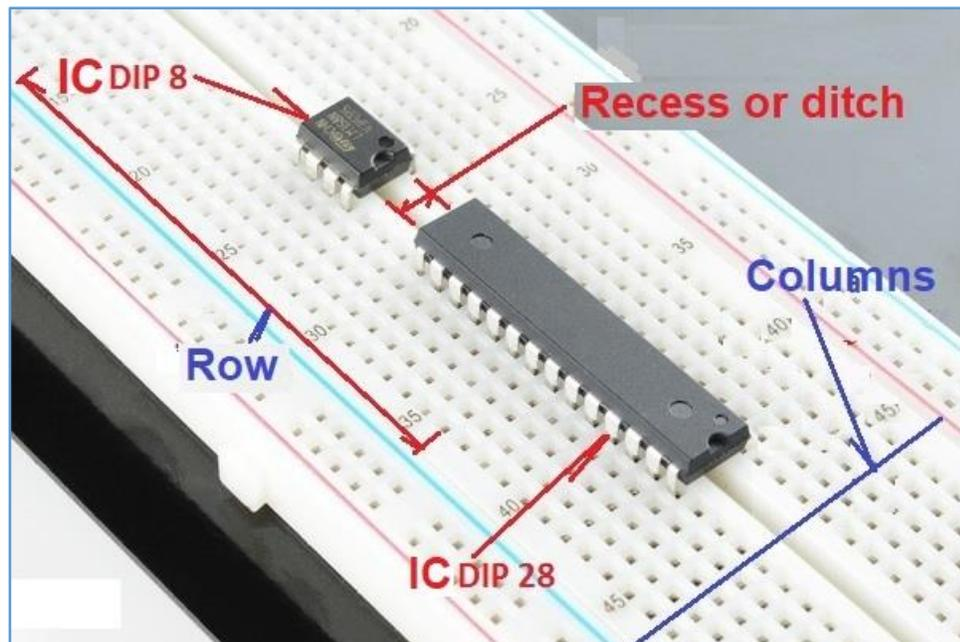

Figure 51 - IC mounting in Protoboard.
- b.** This "ditch", is used for the assembly of ICs that have the casing manufactured in DIP technology. **DIP** stands for "**Dual In-line Package**". That is, it is an IC envelope where the terminals (pins) are mounted in two rows, next to the IC body, as shown in **figure 51**.
In Figure 51, note the following points: